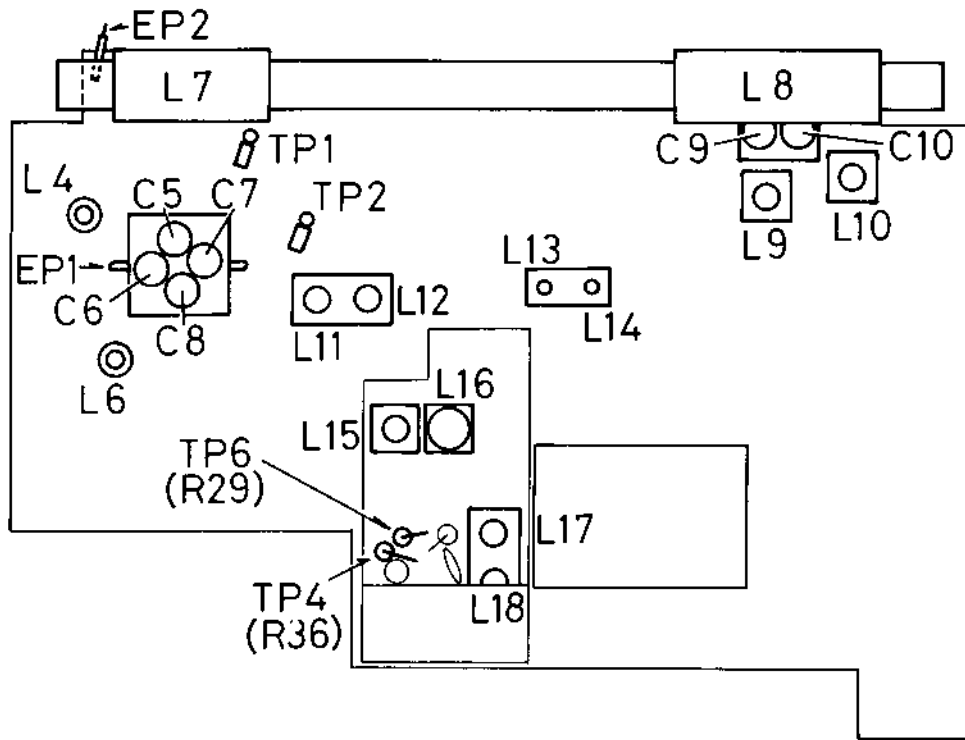

Fig. 11
Connect Hot to TP1 and Cold (Earth) to EP2 through Dummy antenna. (Refer to Figs. 11 & 12)
2. Connect the sweep generator to the test point TP2. (Refer to Fig. 11)
- a. Connect the V. INPUT of oscilloscope to the test point TP6. (Refer to Fig. 11)
Connect Hot to TP1 and Cold (Earth) to EP1. (Refer to Fig. 11)